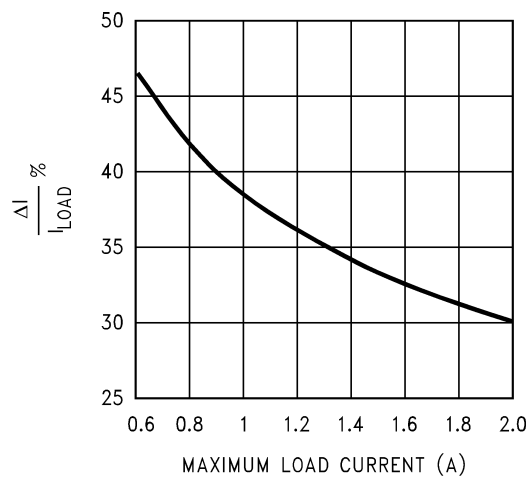

Figure 28. Current Ripple Ratio
4. The nomographs were generated by allowing a greater amount of percentage current ripple in the Inductor as the maximum rated load decreases (see Figure 28). This was done to permit the use of smaller inductors at light loads. Figure 28 however shows only the 'median' value of the current ripple. In reality there may be a great spread around this because the nomographs approximate the exact calculated inductance to standard available values. It is a good idea to refer to AN-1197 for detailed calculations if a certain maximum inductor current ripple is required for various possible reasons. Also consider the rather wide tolerance on the nominal inductance of commercial inductors.